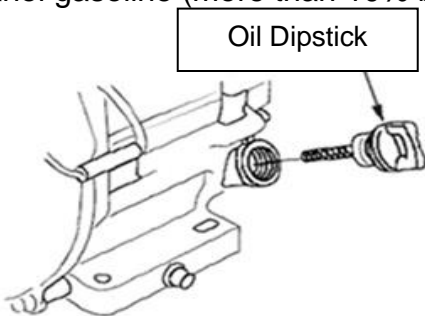

Fig 4-6
2.3.1. Remove the oil dipstick from and wipe it dry; (Fig 4-6)